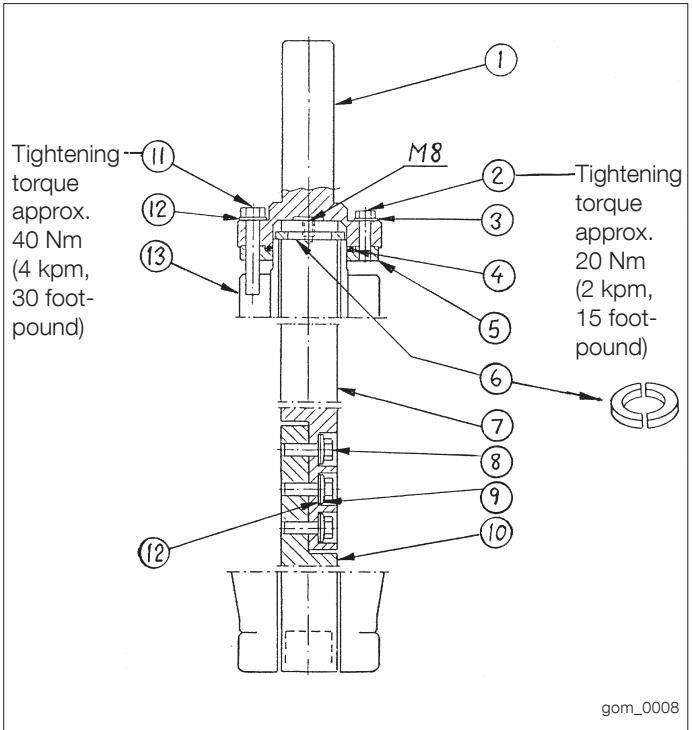

Fig. 12. Solid conductor
10. Lock the solid rod with the divided ring according to Fig. 12.